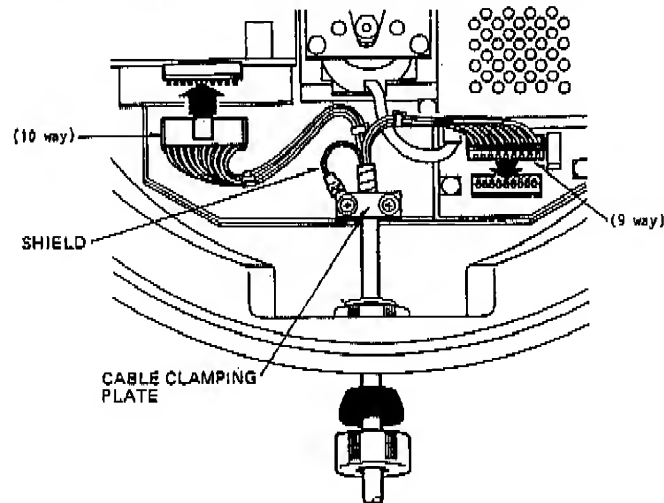

Fig.7 Cable Connection and Grounding
6. Remove the cable clamping plate by loosening two M4 screws at the rear of the transceiver module. See Fig.7.
8. Secure the cable with the cable clamping plate. At this time, ground the shield of the cable by using one of the fixing screws for the cable clamping plate. See Fig.7.
9. Mate the two plugs (9 and 10 ways), referring to Fig.7.